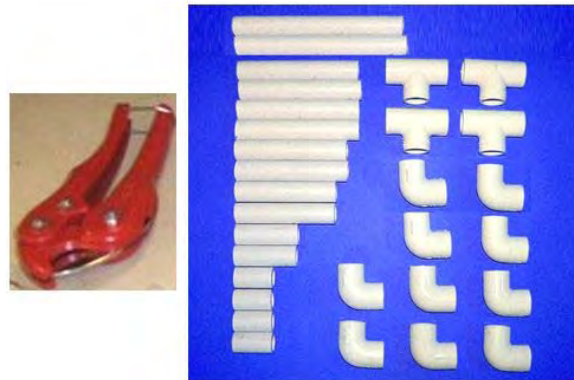
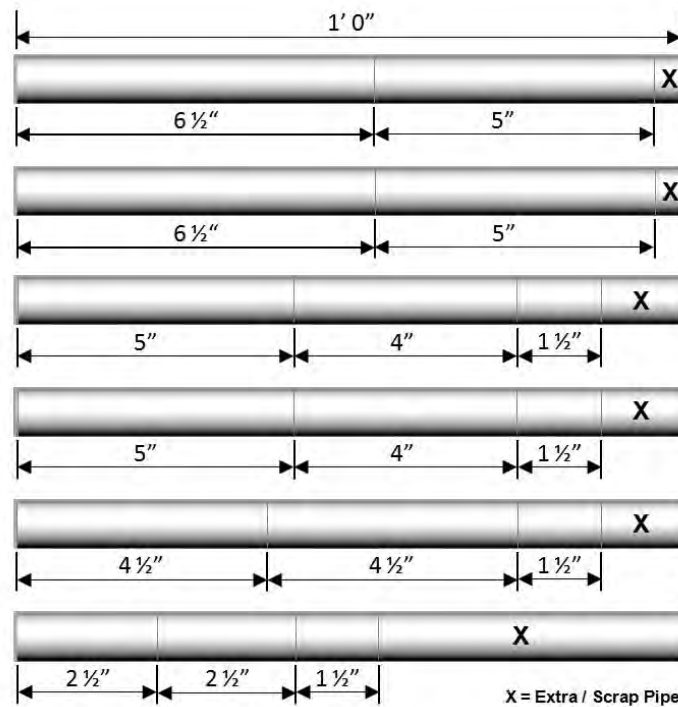

Figure 1.1-1: PVC Pipe Cutter and Cut PVC Pipe Sections, Elbows, and Tees
Figure 1.1-2: Cutting Guide to Efficiently Mark and Cut the 16 Required Pipe Sections from the Six 1-Foot Pipe Pieces Provided in SeaPerch ROV Kits
2. Use a pencil or marker to write the length on the middle of each piece to keep track of cuts and to easily identify them later. Figure 1.1-1 shows the pieces needed to assemble the ROV frame. Figure 1.1-2 (**on the next page**) shows one way to cut the pipe pieces from six, one-foot pipes.